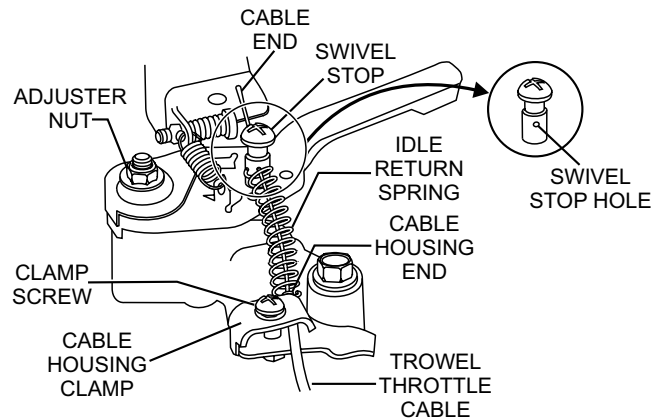

Figure 7. Throttle Cable Installation (Engine)
3. Connect the **trowel throttle cable** to the engine throttle linkage (Figure 7). There should be a piece of wire installed on the trowel to show where to route the throttle cable.